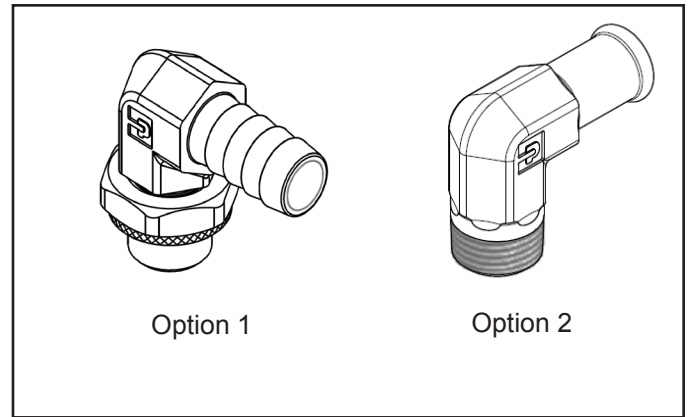

Figure 2 – Top Coolant Fitting Options
INLET & TOP COOLANT FITTING INSTALLATION (REFER TO FIGURE 2)
1. There are two options for the top coolant fitting. Identify the fitting you have from the two options shown in Figure 2 and follow the steps for installation.